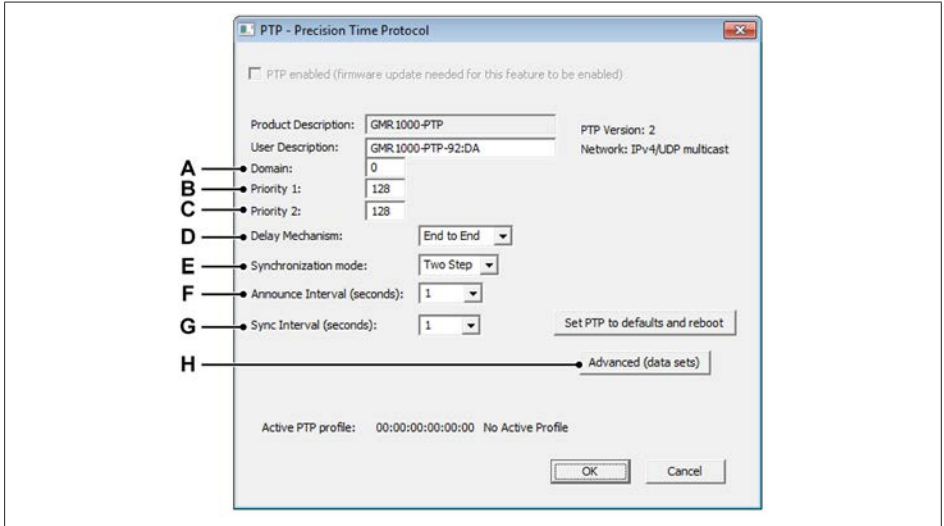
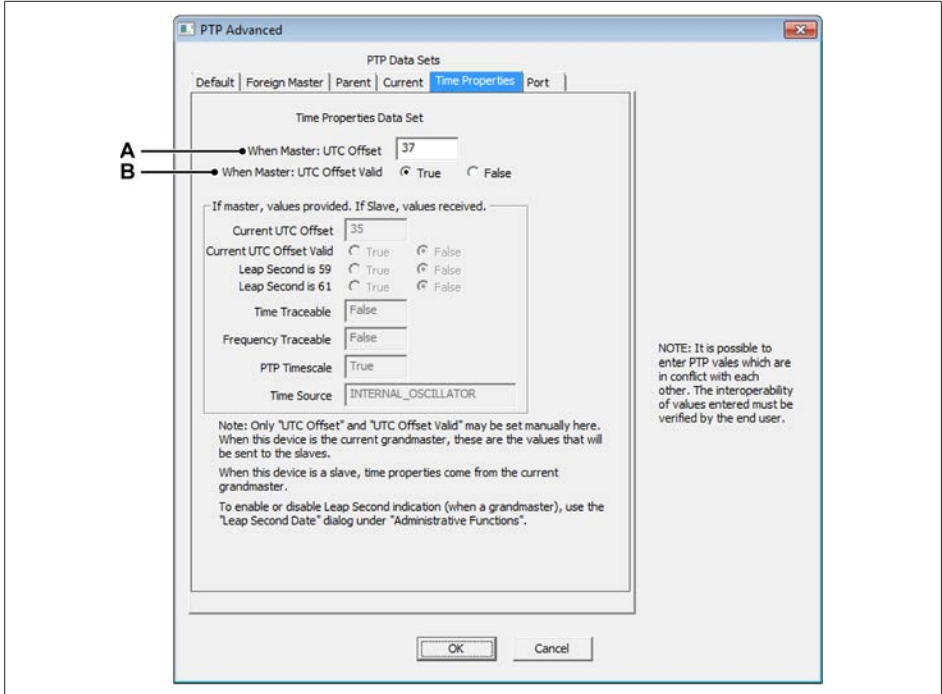

Fig. D.23 PTP - Precision Time Protocol
Fig. D.24 PTP Advanced - PTP Data Sets/Time Properties settings
- Click the **Advanced (data sets)** button (H) in PTP - Precision Time Protocol window (see Fig. D.23) to open the PTP Advanced settings (see Fig. D.24). In **PTP Advanced** window make sure the followings settings are set: